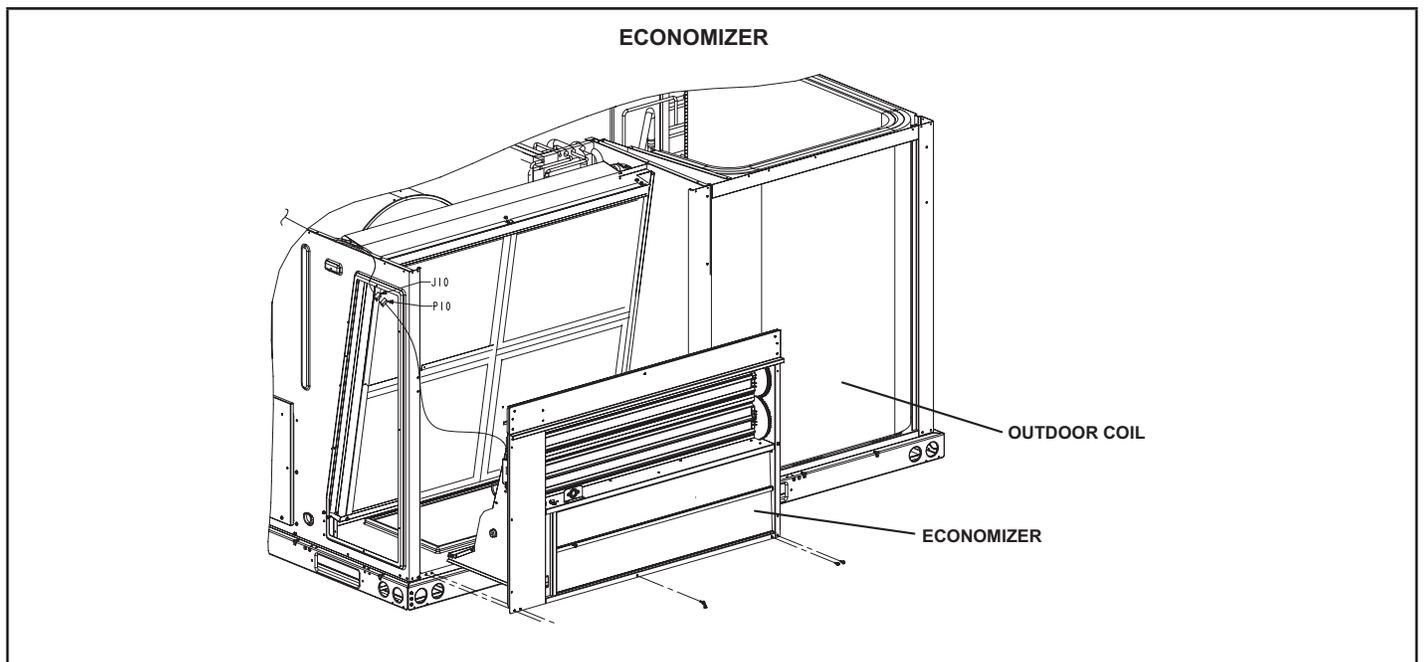

FIGURE 18
Economizers use outdoor air for free cooling when temperature and/or humidity is suitable. See FIGURE 18.
- 3 - At economizer/filter compartment, attach economizer plug(P10) to pre-wired harness jack (J10). See FIGURE 18.